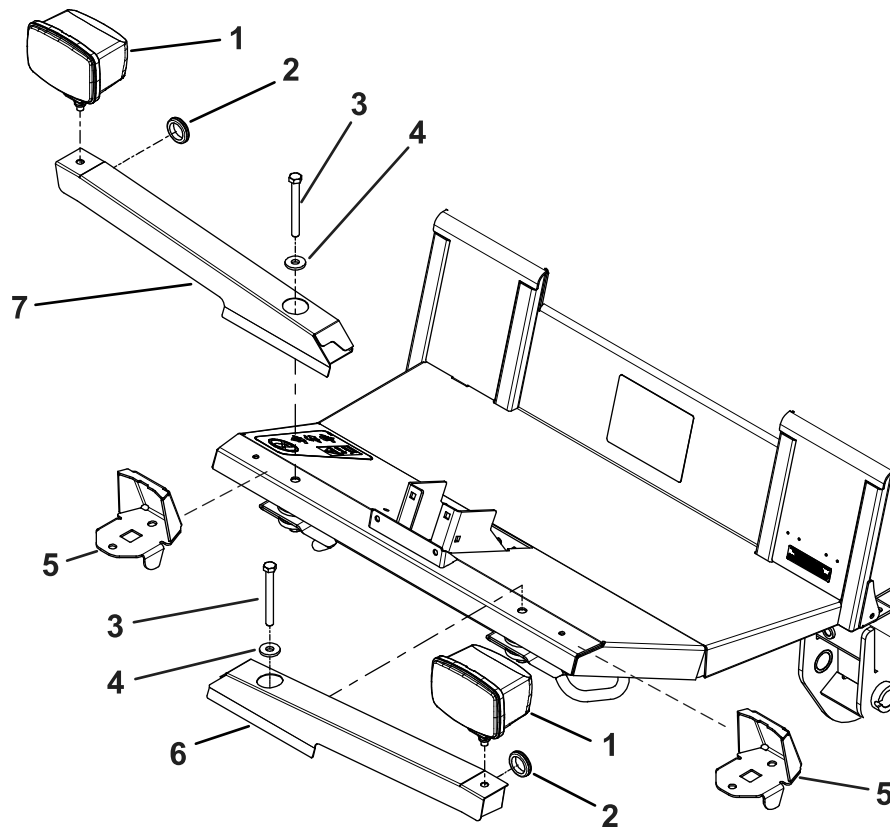

Figure 6
3. Remove the brackets from the headlights and discard the brackets (Figure 6).
4. Using the fasteners that you removed, install the left and right light brackets to the existing holes in the front of the operator's platform (Figure 6).
5. Using existing fasteners from the headlight assembly, install the headlights to the left and right light brackets (Figure 6).
6. Install the grommets to the light mounts (Figure 6).